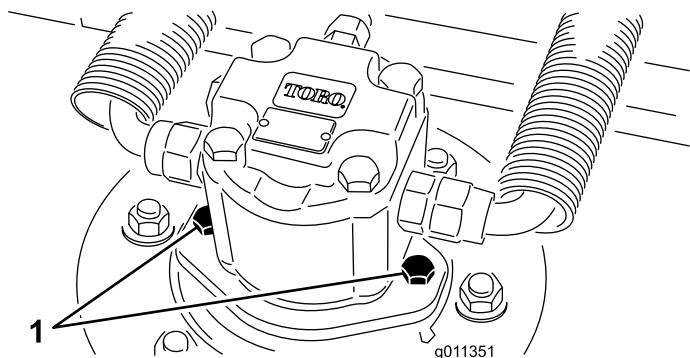

Figure 95
2. Disconnect and remove the hydraulic motor from the cutting unit (Figure 95). Cover the top of the spindle to prevent contamination.
4. Install the hydraulic motor to the deck (Figure 95). Make sure that the O-ring is in position and not damaged.